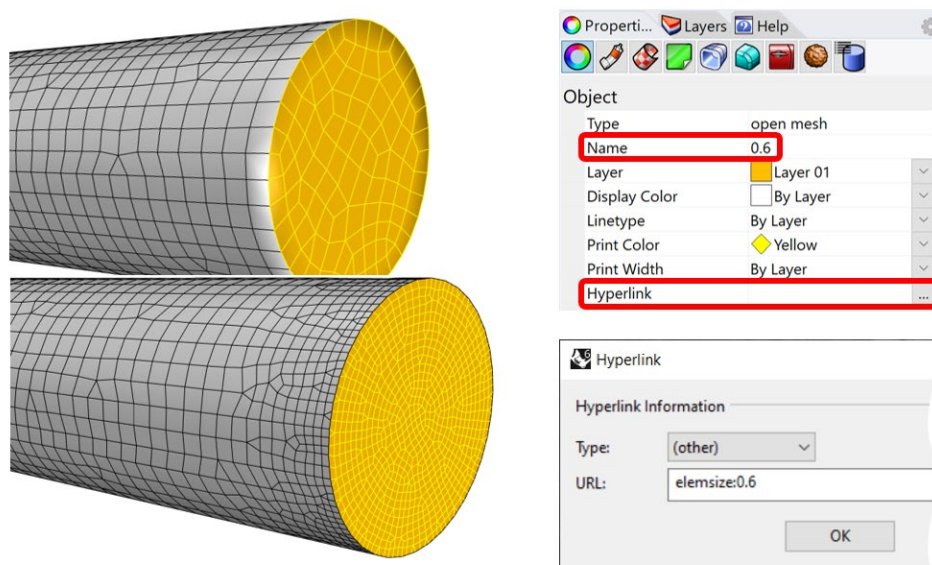

Figure 19: Two ways to specify local element size for surface meshes.
1. By specifying element size via a hyperlink available through object properties (Figure 19):
Figure 19 shows two ways to specify local element size (*Name* field or *Hyperlink*). In this example only the yellow part of the mesh is assigned local element size, after which all meshes are remeshed with **GSurf**. The result of remeshing (bottom image) shows a much finer mesh at and around the yellow part, which corresponds to the provided element size.